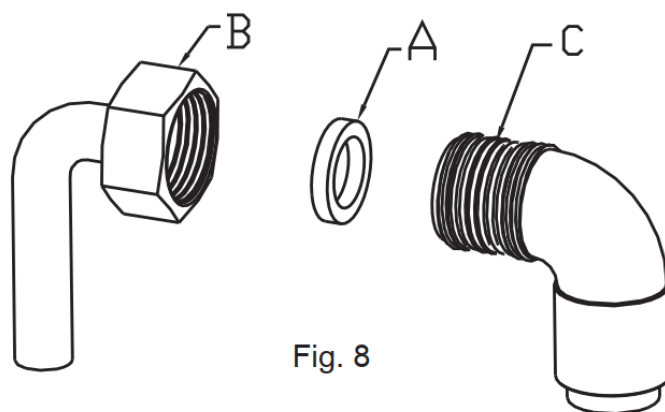

Fig. 8
When making the gas connection, it is important to place the gasket (A) in between the inlet pipe (C) and the elbow (B) to ensure a tight gas seal (Fig.8)